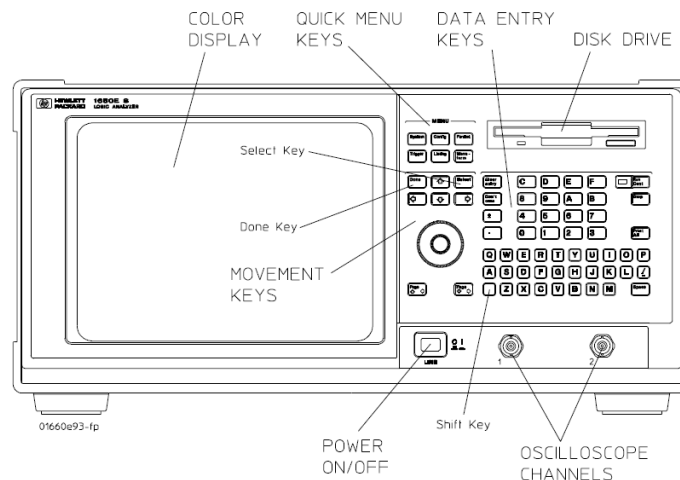

Figure 7: Agilent 1673G Logic Analyzer Front Panel
- (c) Turn the logic analyzer on by flipping the power switch towards the bottom of the machine. See Figure 7.